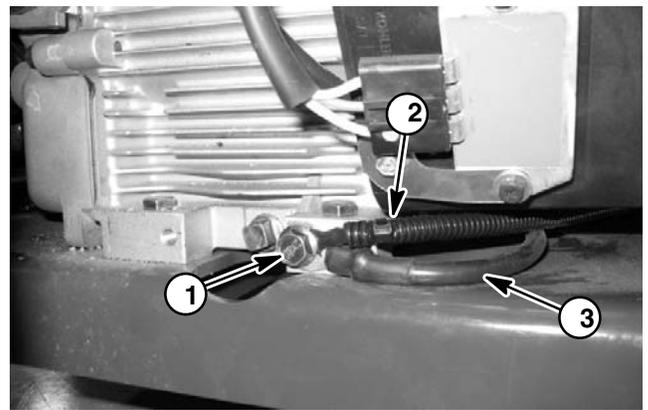

Figure 10
B. Disconnect negative battery cable and wire harness ground wire from the front corner of engine base (Fig. 10). Locate and retrieve starwasher from between engine and wire connectors.
B. Remove four (4) cap screws and flange nuts that secure the engine to the machine frame.
- C. Secure engine to the frame with four (4) cap screws and flange nuts. The front two (2) cap screws should be positioned down through engine and frame. The rear two (2) cap screws should be up through frame and engine.
- C. Position negative battery cable and wire harness ground wire to the front corner of engine base (Fig. 10). Place starwasher between engine and wire connectors and secure with flange head screw.